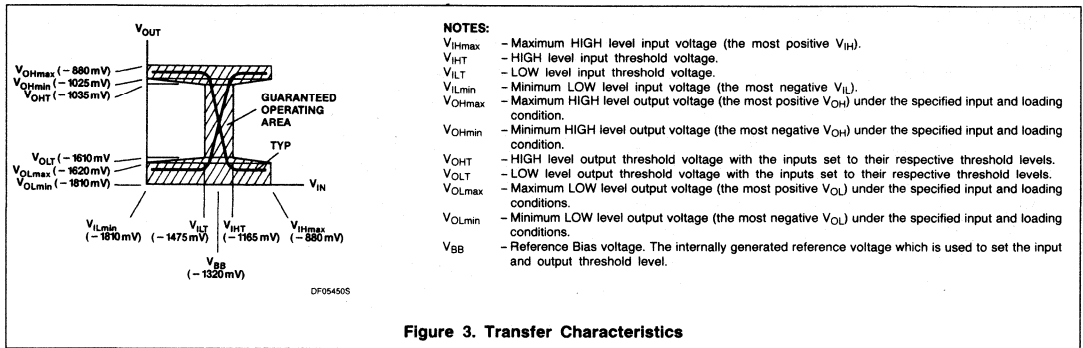

Figure 3. Transfer Characteristics
- The specified limits shown in the DC Characteristics can be met only after thermal equilibrium has been established. Thermal equilibrium is established by applying power for at least 2 minutes while maintaining transverse air flow of 2.5 meters/s (500 linear feet/min) over the device either mounted in the test socket or on the printed circuit board. Test voltage values are given in the DC Operating Conditions and defined in Figure 3.